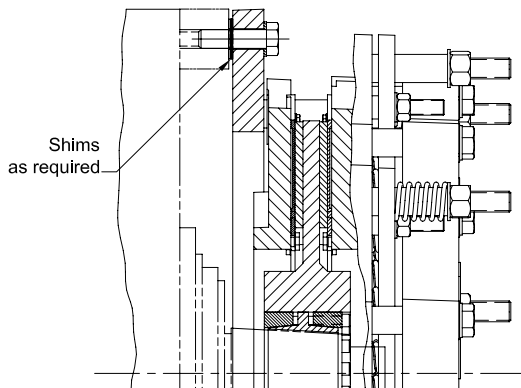

Figure 4
2.2.3 One at a time, remove the threaded rods installed at each lug location and replace each with a 1-1/2" 6NC X 5.00" Grade 8 hex head screws and lock washers (customer provided). Tighten the hex head screws to the appropriate specification. See Table 3. Ensure the required shims calculated in Table 1 column D are installed between the mounting lug and the mounting flange (2) prior to tightening the hex head screws. See Figure 4.